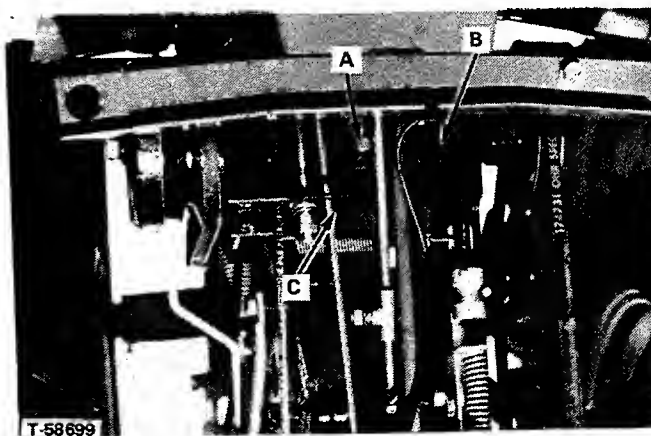

FIGURE 7 - Bevel Gear Box
1. Check the bevel gear box fluid level. Remove the fill plug (A, Figure 7) and wipe oil off attached pin. Insert the fill plug loosely in hole (do not screw in). In this position the fluid should just touch the bottom of the pin. If not, add Allis-Chalmers Power Fluid 821. Do not overfill. A drain plug (C) is located on rear cover.